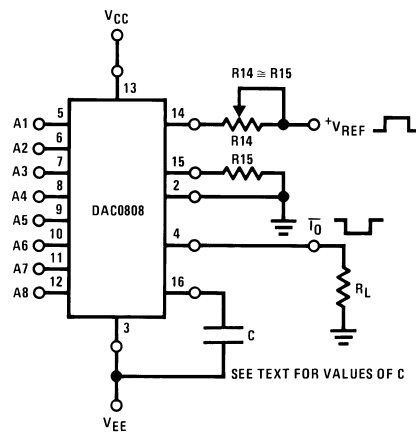

FIGURE 7. Positive  $V_{REF}$  (Note 8)
**Curve A:** Large Signal Bandwidth Method of Figure 7,  $V_{REF} = 2\text{ Vp-p}$  offset 1V above ground.
**Curve B:** Small Signal Bandwidth Method of Figure 7,  $R_L = 250\Omega$ ,  $V_{REF} = 50\text{ mVp-p}$  offset 200 mV above ground.
Connections for a positive voltage are shown in Figure 7. The reference voltage source supplies the full current  $I_{14}$ . For bipolar reference signals, as in the multiplying mode,